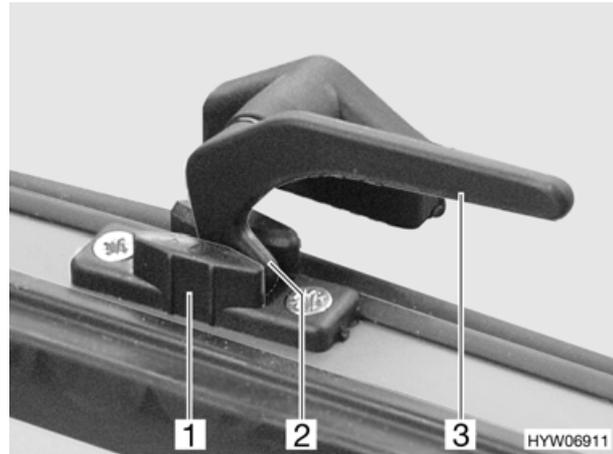

Fig. 21 Hinged window in the "continuous ventilation" position
- Continuous ventilation (Fig. 21)
- Open window handle (Fig. 21,3) of the hinged window.
- Return window handle into its original position. The locking catch (Fig. 21,2) has to be moved into the recess of window catch (Fig. 21,1).